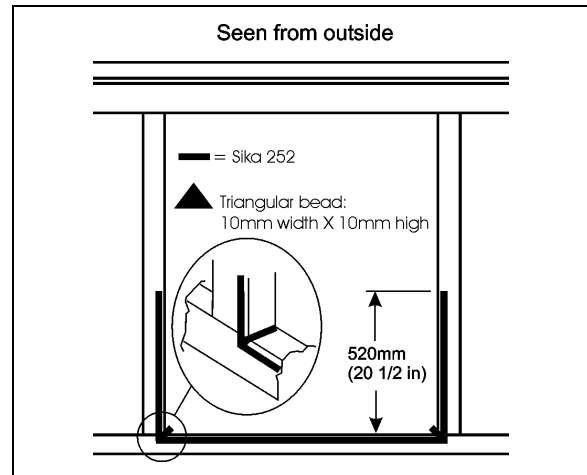

FIGURE 71: AWNING WINDOW – Sika 252 APPLICATION
7. Apply Sika 252 as per FIGURE 71 (triangular bead: 10mm width X 10mm high) [10mm≈3/8"];